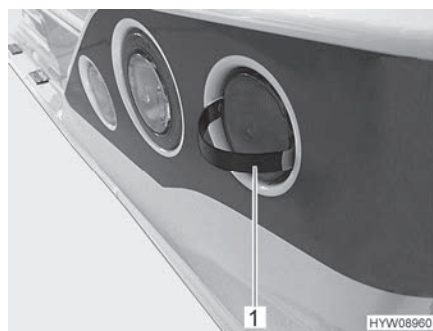

Fig. 134 Remove the cover
- Insert the snap-in lugs of the supplied tool (Fig. 134,1) at the sides of the cover as shown.